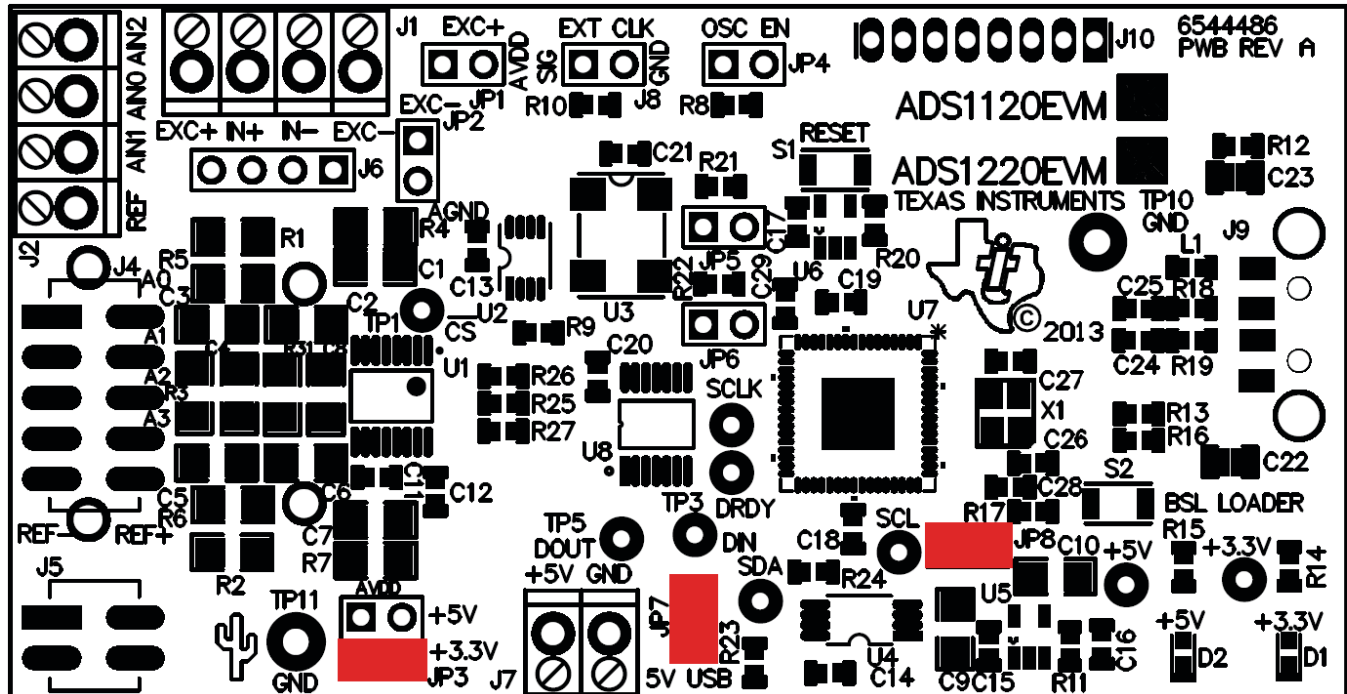

Figure 1. ADS1x20EVM Default Jumper Locations
Figure 1 shows the jumpers found on the EVM and the respective factory default conditions for each.
1. Verify the jumpers on the ADS1220EVM are as shown in Figure 1 (note that these settings are the factory-configured settings for the EVM).